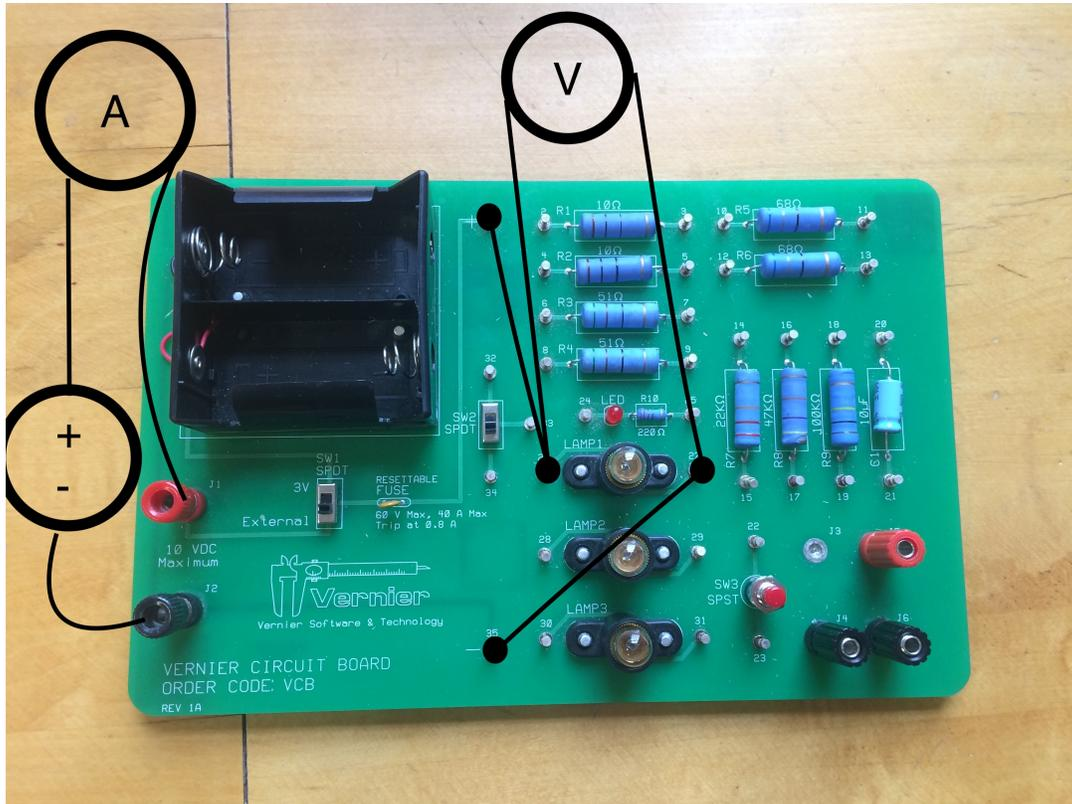

Figure 4: Detailed view of the connections with a lightbulb as the device under test.
Looking at Fig. 4 which shows (from bottom left to right)
Please re-draw Fig. 4 with the appropriate symbols used above in the style of Fig. 3. a
2. With the power supply off, connect the circuit as shown above in Figure 4.